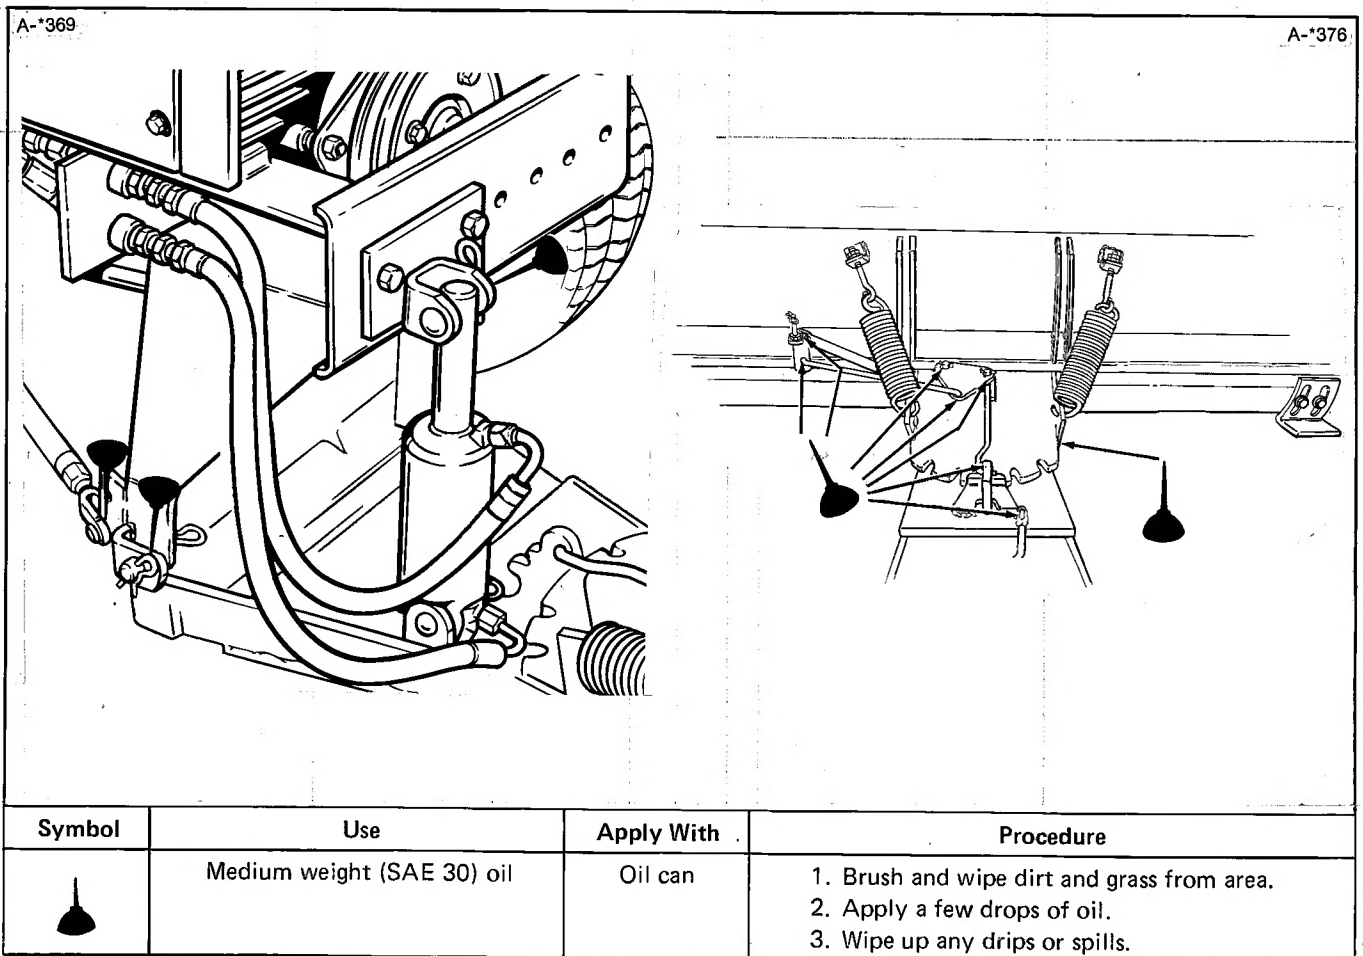

Figure 8. Lubricate Snow Plow/Dozer Blade (25-Hour Care)
The only care required for the snow plow/dozer blade on a regular scheduled basis is lubrication. The lubrication should be done as shown in figure 8 before the first use and after every 25 hours of operation.
4. Lubricate snow plow/dozer blade. (See figure 8).